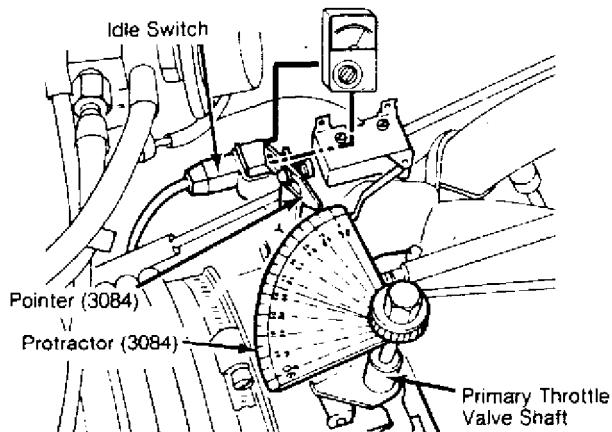

Fig. 13: Checking Throttle Valve Idle Switch Adjustment
1) To check and adjust idle switch, loosen upper left bolt on throttle valve housing. Attach Protractor Pointer (3084) under bolt. Attach Protractor (3084) on primary throttle valve shaft, removing shaft nut if necessary. See Fig. 13.